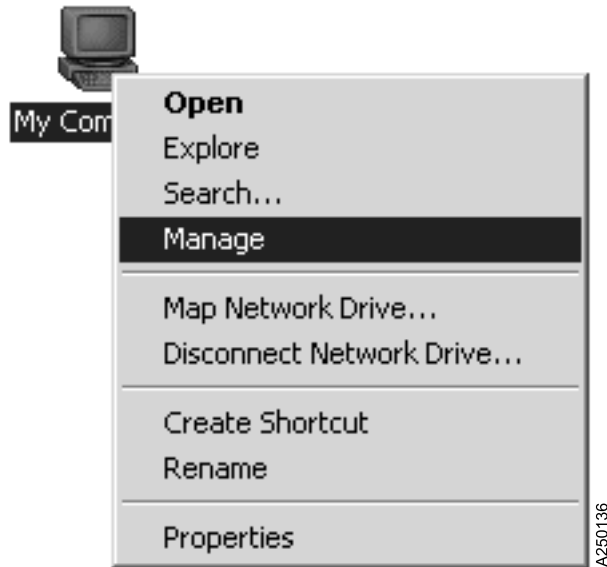

Figure 46. My Computer Menu
1. Right-click **My Computer**, then click **Manage**. See Figure 46.